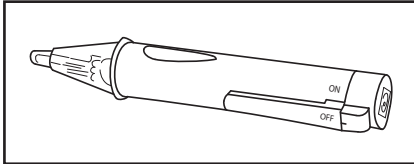

Figure 2 - Use a non-contact circuit tester to insure that the power is off before you work on a circuit.
- Non-Contact circuit tester to check for power (Figure 2)